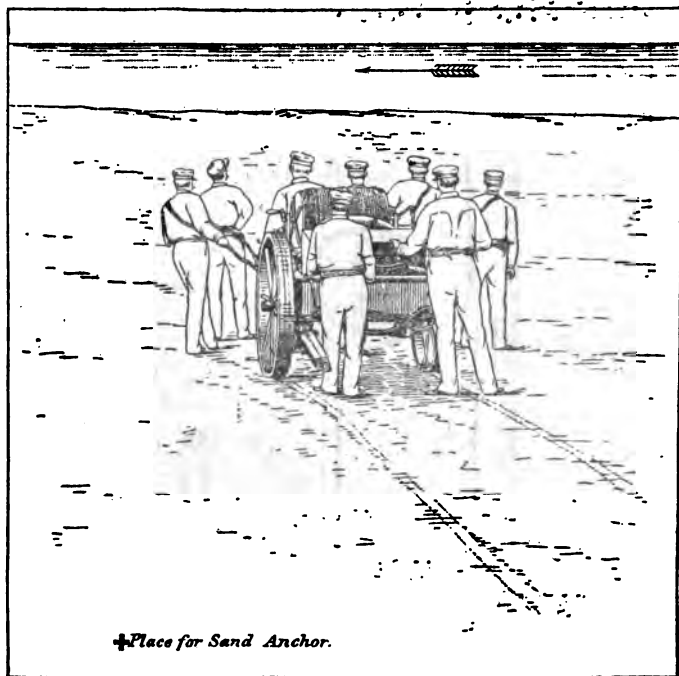

FIG. 3.—Halt.
**379. Halt.**—The officer in charge will direct the cart to be placed between the surf and the spot he selects for the sand anchor and a few yards to windward (current), the cart facing the surf. (See fig. 3.)